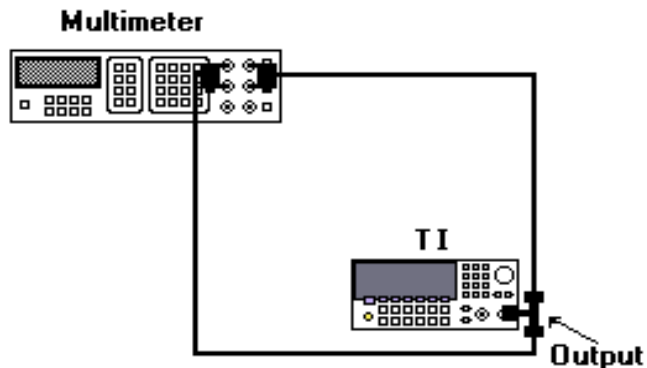

Figure 2. Output impedance adjustment hook-up.
(6) Set the multimeter to display 5 ½ digits and dc volts measurement.
(7) With **Setup # 6** highlighted press the **BEGIN** key then using the numerical keypad, adjust the displayed **Meas'd Voltage** to match the multimeter dc volt indication, then press the **ENTER VALUE** key.
(8) Disconnect cable from the rear panel **Modulation In** and with **Setup # 7** highlighted press the **BEGIN** key.
(9) Set the multimeter to measure offset-compensated, four-wire ohms, with 100 NPLC integration. Connect equipment as shown in figure 2.